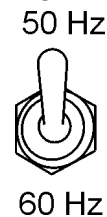
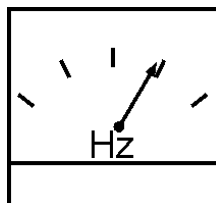

Figure 42. Frequency Selector Switch
Figure 46. Frequency Meter (Hz)
6. Place the **frequency selector switch** in either the 50 or 60 Hz position (Figure 42). This toggle switch can be located on the side of the control box opposite the voltage selector switch.
12. Depending on the position of the frequency selector switch (Figure 42), the generator's frequency meter (Figure 46) should be displaying either a 50 or 60 cycle output frequency expressed in **HERTZ**.